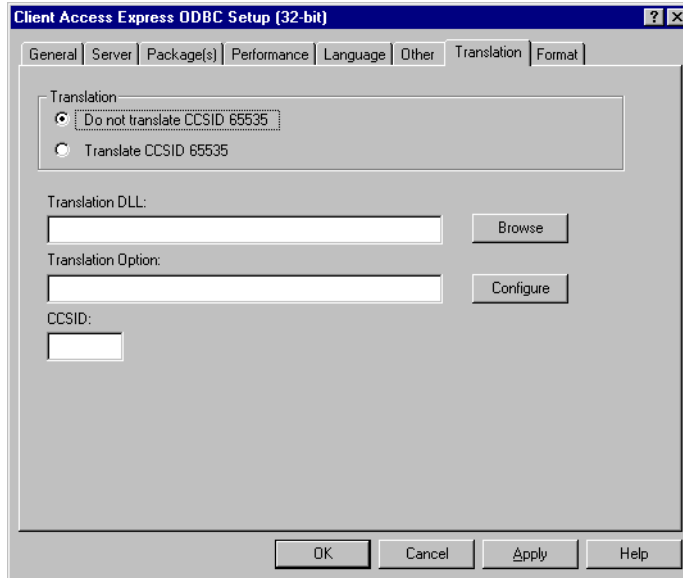

Figure 70. Client Access Express ODBC Setup (32-bit) (Part 5 of 6)
12. Select **Do not translate CCSID 65535** as shown in Figure 70 on page 200.
13. Select **Translate CCSID 65535**. Otherwise, the information should appear the same as shown in Figure 70 on page 200.
31. Select **Translate CCSID 65535**. Otherwise, the information should appear the same as shown in Figure 70 on page 200.
49. Select **Translate CCSID 65535**. Otherwise, the information should appear like the example in Figure 70 on page 200.